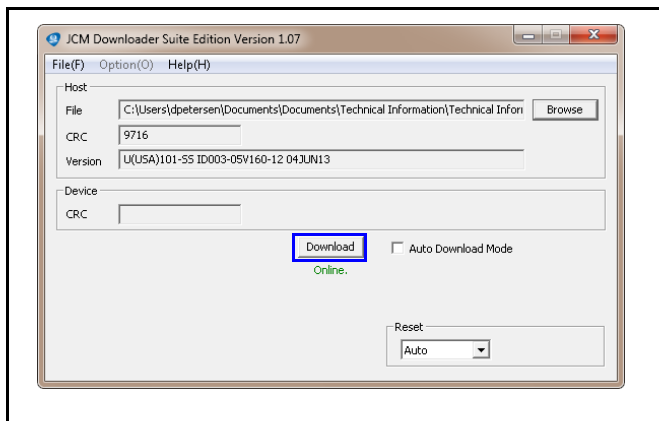

Figure 5 JCM Downloader Tool Suite Edition
The iPRO Unit Software can be updated using either the JCM Tool Suite Downloader Tool (Figure 5) or a BlueWave Download Tool. When performing a software upgrade, all DIP Switches on the iPRO Unit should be OFF (Normal Mode).
3. Open the JCM Tool Suite Application and select **Download**. The JCM Downloader Tool appears (Figure 5).